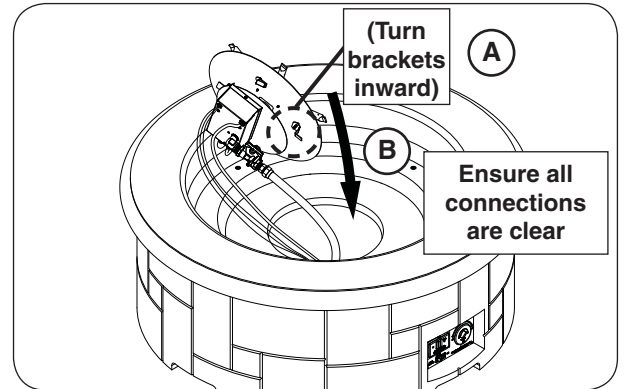

Fig. 25-2 Insert burner assembly
1. Ensure that the four or eight burner brackets are turned inward, then insert the burner assembly (see Fig. 25-2, A-B).